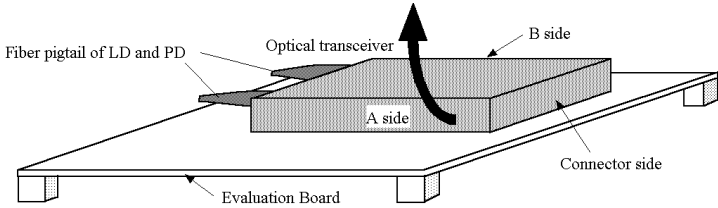

Figure 3 Unmating Sequence
1. Pull the transceiver from the one side (Figure 3: Side A).